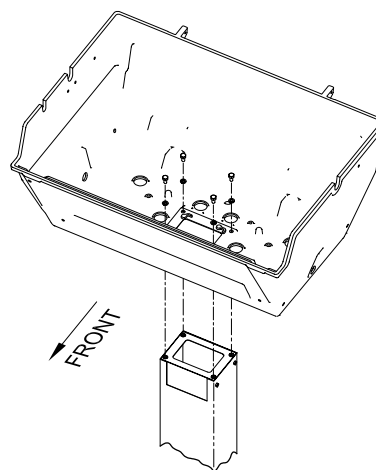

Figure 6
3. Attach the grease cup bracket assembly to the bottom of the grill casting and fasten with #10-24 x 3/4" bolt, 9/32 ID x 5/8 OD washer, and #10-24 wing nut. See Figure 6.
6. Place the grill bottom on top of the post and secure the grill bottom to the post by placing four 1/4-20 x 3/4 Hex Head screws and 1/4 x 5/8 Flat Washers in the threaded inserts that are in the upper bracket. See Figure 6.